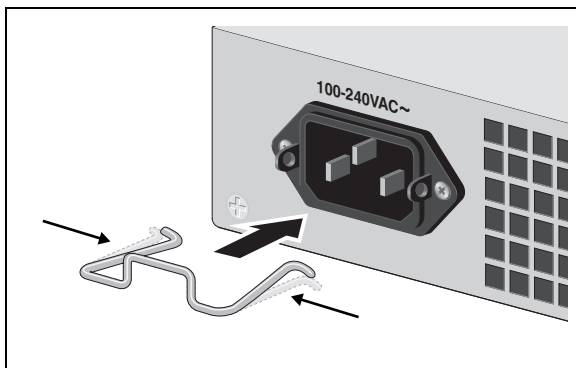

Figure 29. Inserting the Retaining Clip into the Retaining Bracket
2. Install the clip on the AC power connector on the rear panel of the switch. With the “u” of the clip facing down, press the sides of the clip toward the center and insert the short ends into the holes in the retaining bracket, as shown in Figure 29.